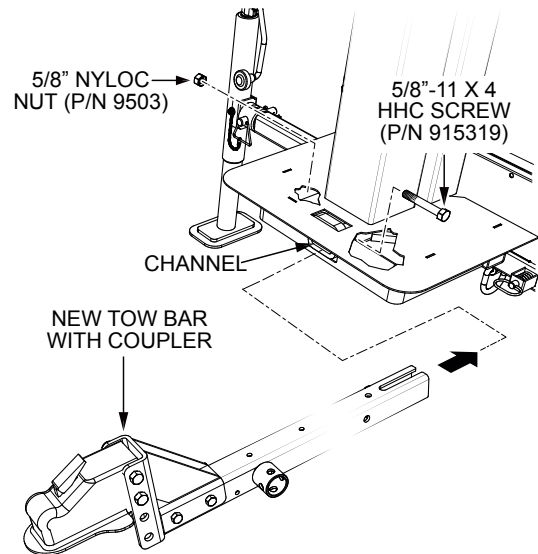

Figure 9. Attach and Secure New Tow Bar
- Slide **new tow bar with coupler** into the frame channel as shown in Figure 9.